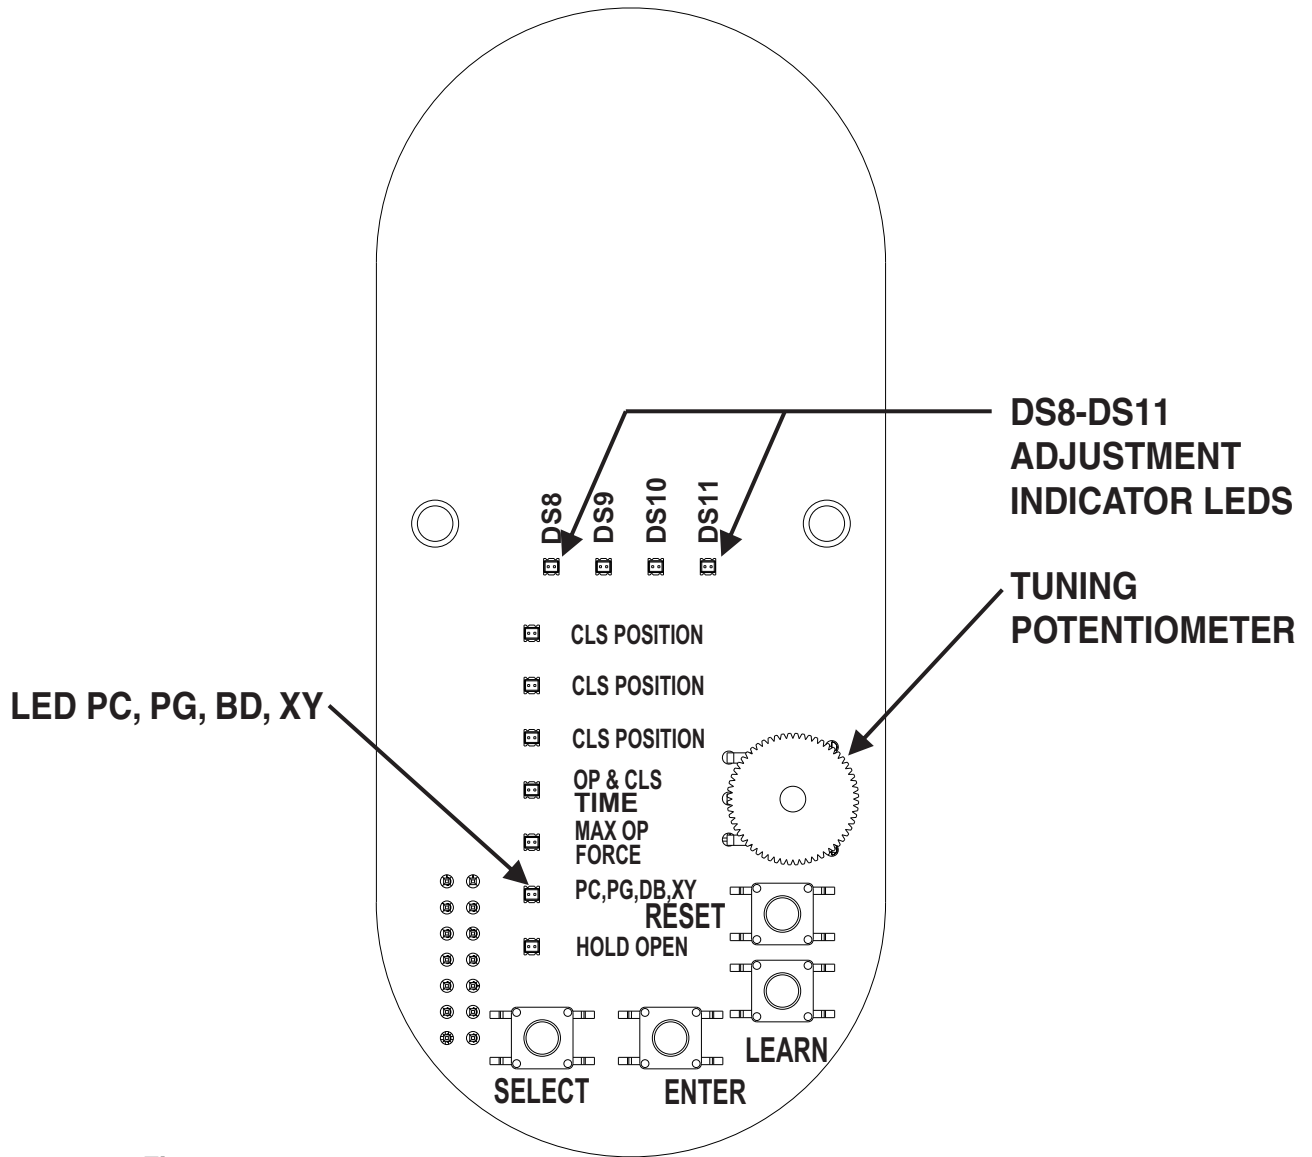

Figure 34
2. Enter programming mode, Refer to Figure 34 and, at the base of the controller, PRESS and HOLD the “SELECT” and “ENTER” pushbuttons for three seconds. The following shall occur: